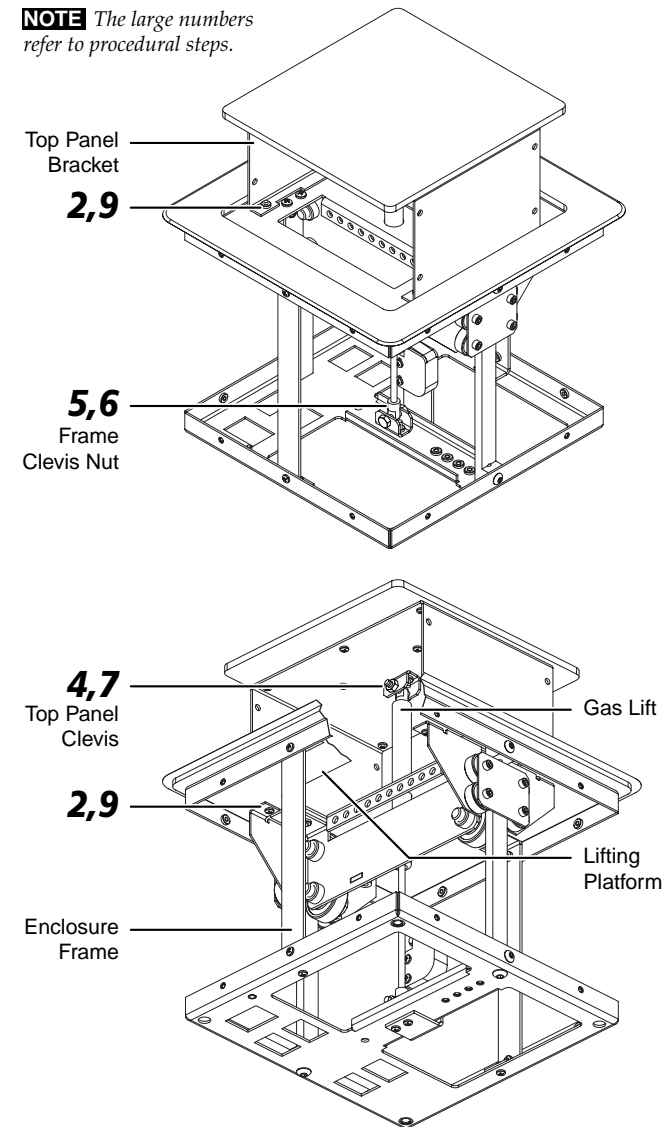

Figure 3-5 — Changing the gas lift
2. Open and close the top panel as necessary to access the center lifting platform (figure 3-5). Remove the four screws that secure the top panel bracket to the lifting platform.